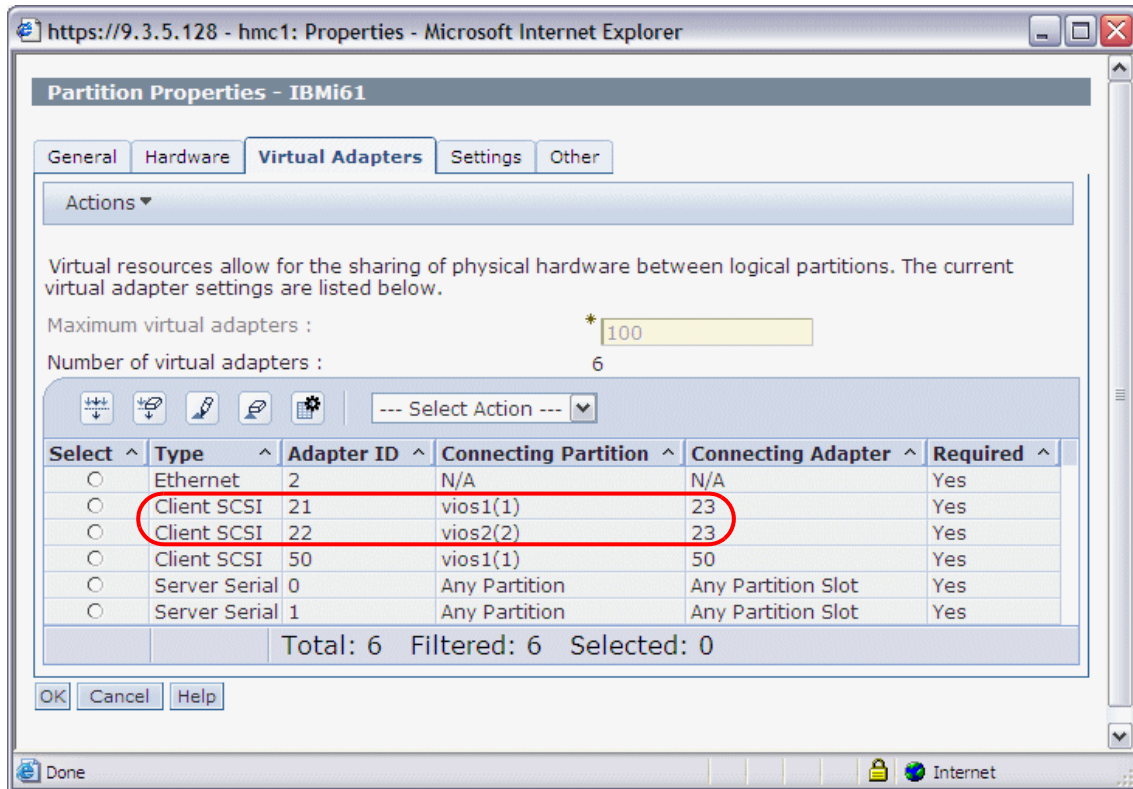

Figure 9-9 IBM i partition profile virtual adapters configuration
1. Look at the virtual adapter mapping in the IBM i partition properties on the HMC, as shown in Figure 9-9. The Sys Card 21 and 22 information from the IBM i client corresponds to the virtual SCSI adapter slot numbers. Therefore, the partition properties information shows that the IBM i client virtual SCSI client adapters 21 and 22 connect to the virtual SCSI server adapters 23 and 23 of the Virtual I/O Server partitions *vios1* and *vios2*.